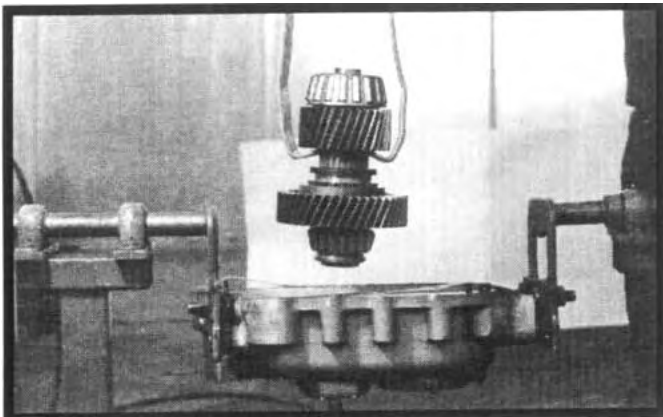

Figure 4.11
- Lift the intermediate shaft subassembly from the case. See Figure 4.11.